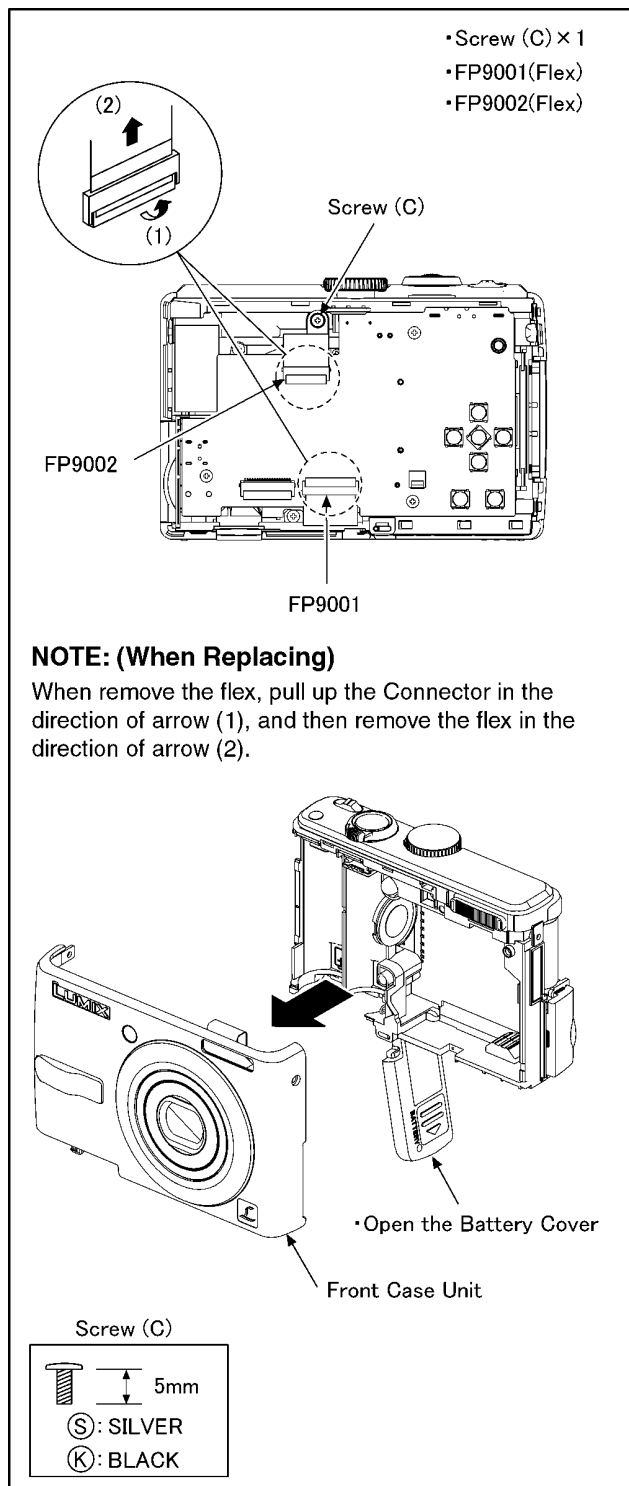

Fig. D4
| 4   | Front Case Unit  | Fig. D4            | 1 Screw (C)FP9001(Flex)FP9002(Flex)Front Case Unit                    |